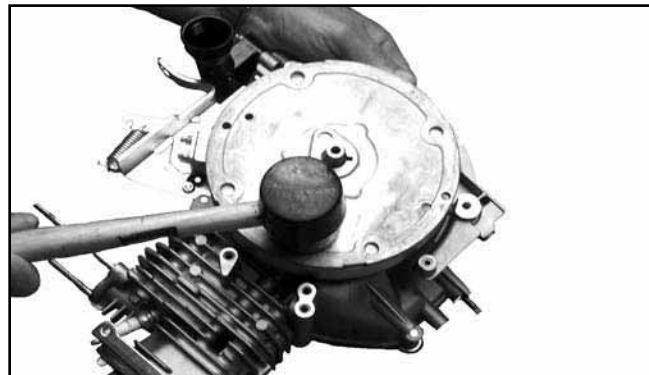

Figure 8-29. Removing Flywheel (Top View).
3. The flywheel is mounted on a tapered shaft. To remove it, use a rubber mallet to land a firm blow, slightly off center on the flywheel. See Figure 8-29.